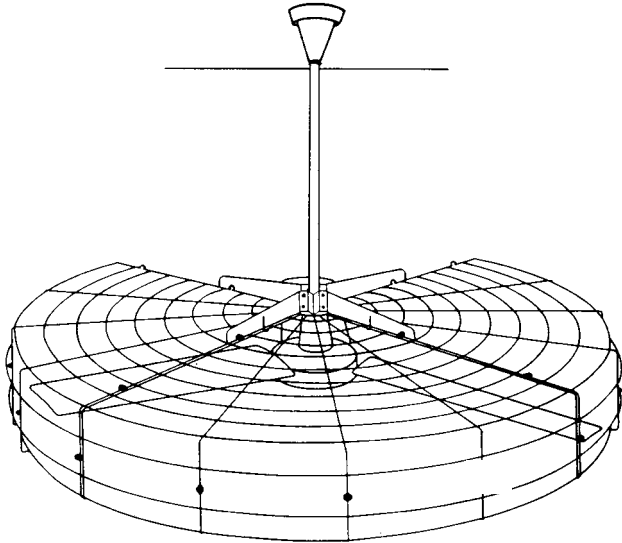

Figure 7 - Hang Fan & Guard
5. Hang fan from factory supplied "J" hook at the beam. (See Figure 7)